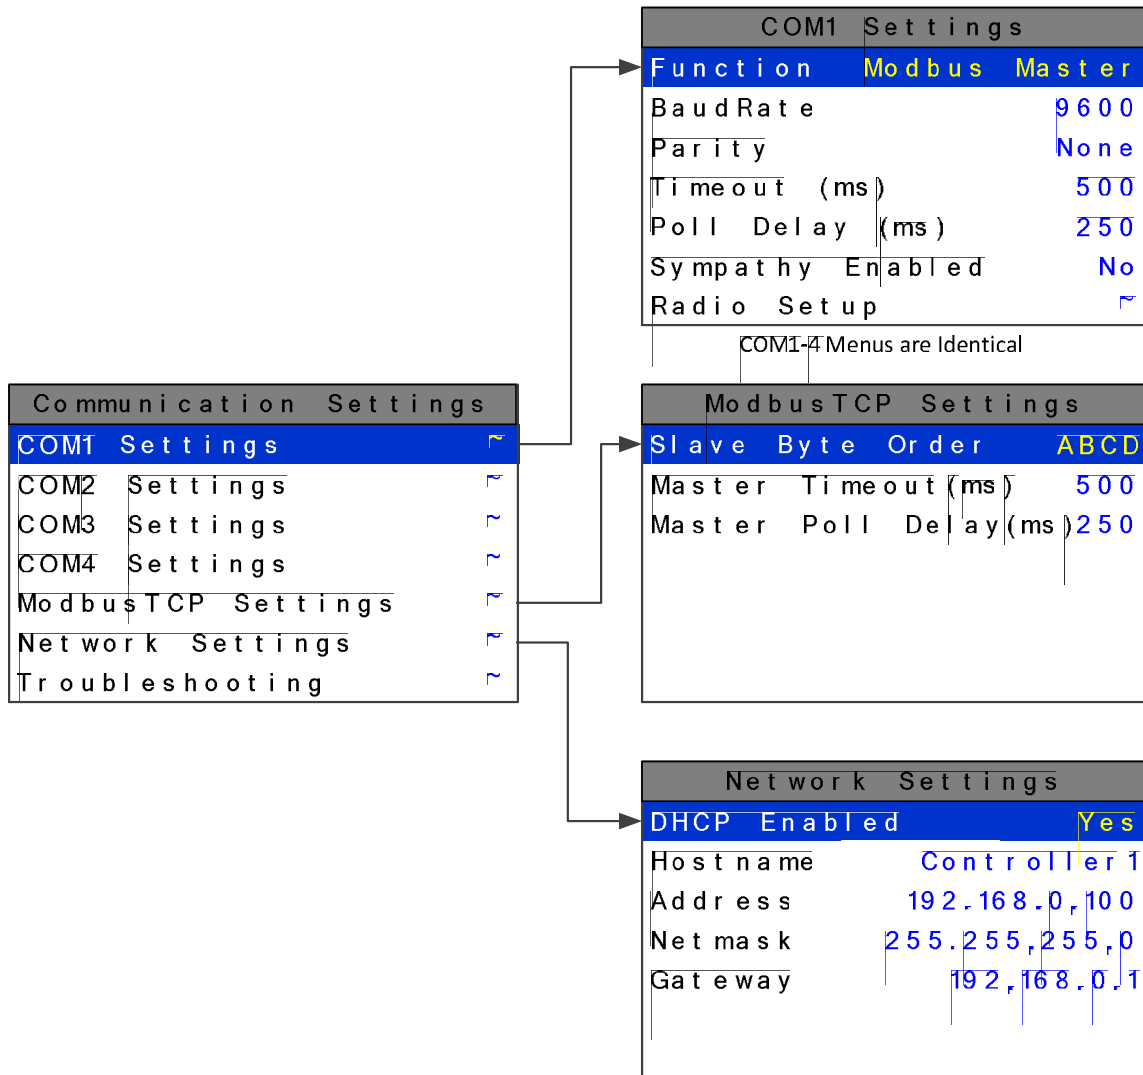

Figure 2-22
**COMMUNICATION SETTINGS** entry menu, show on left in Figure 2-22; use  /  to scroll up or down to select the communication port that is to be configured.